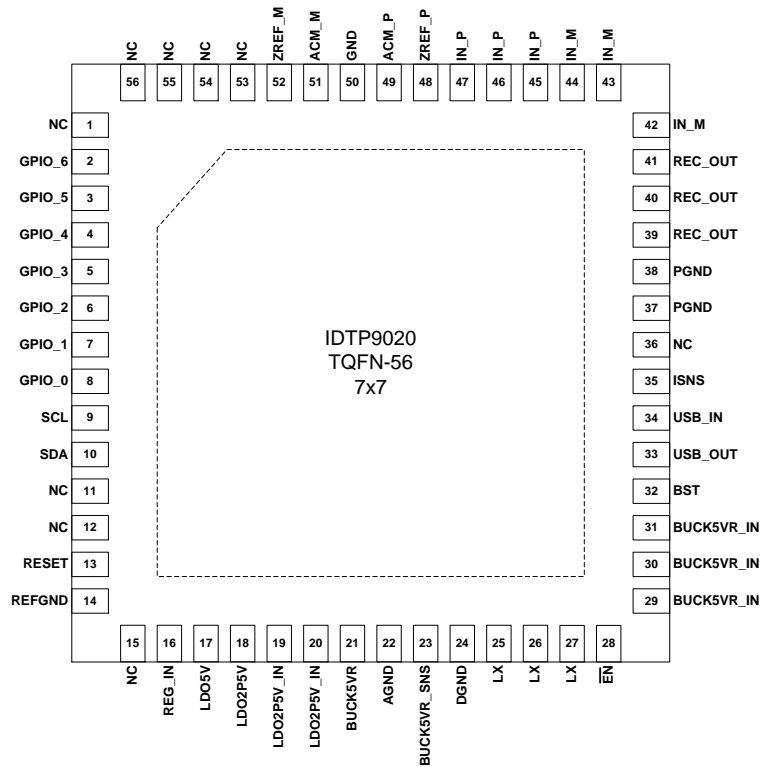

Figure 1. IDTP9020 QFN (NTG56 7x7x1mm 56-Icd) Pin Configuration
**Table 4 – QFN NTG56 Pin Functions by Pin Number (See Figure 1)**
**Table 5 – QFN NTG56 to WLCSP AHG99 Pin Translation (See Figures 1 and 2)**